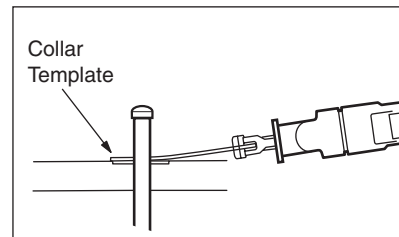

Figure 8. Riser Installation
- **For 2-1/2" stub-up:** Cut flush with the cement **Tip: Use the UltraFlex® Collar Template (part #1-17-7) (see Figure 8).**